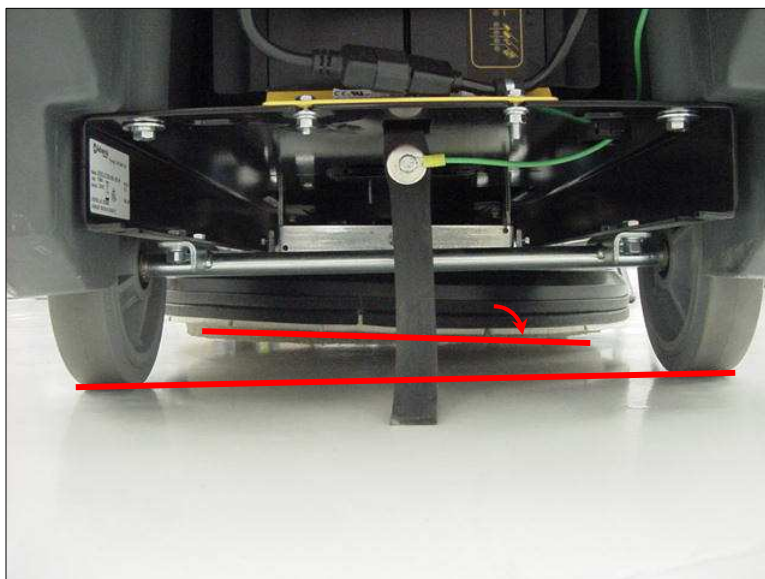

Figure 7 – Nominal Pad Tilt Angle (rear view)
6. See Figure 7. Rotate the motor mount/pad driver assembly in the motor frame so the pad is tipped down toward the right-hand side of the machine at the approximate angle shown in Figure 7.
Note: *It is important to have removed the charger mounting hardware as shown in Figure 7 to allow the charger to move so the wires noted do not get damaged as the housing is removed.*